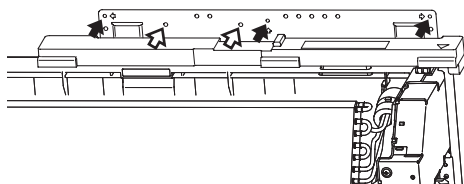

Fig. 6
- 4) Fix the installation plate with screws ③ at 3 points. (Fig. 6)